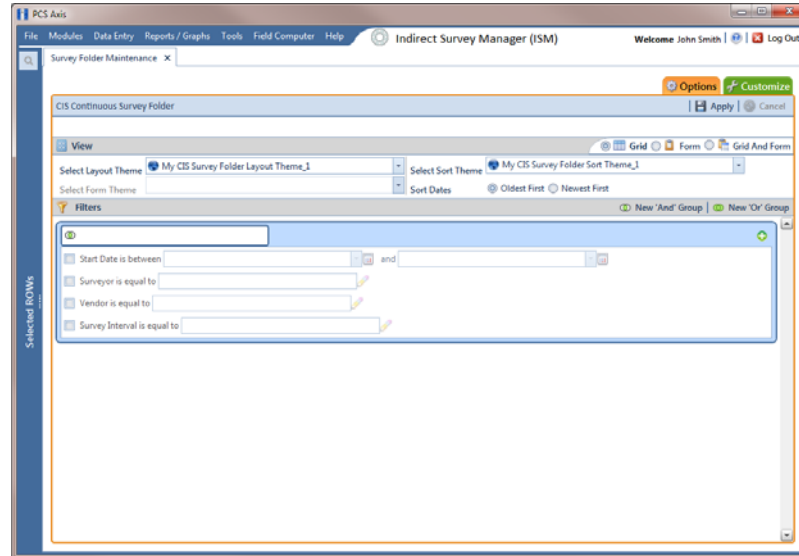

Figure 6-17. Options
- a Click the **Options** tab to open the options page (Figure 6-17, page 199).